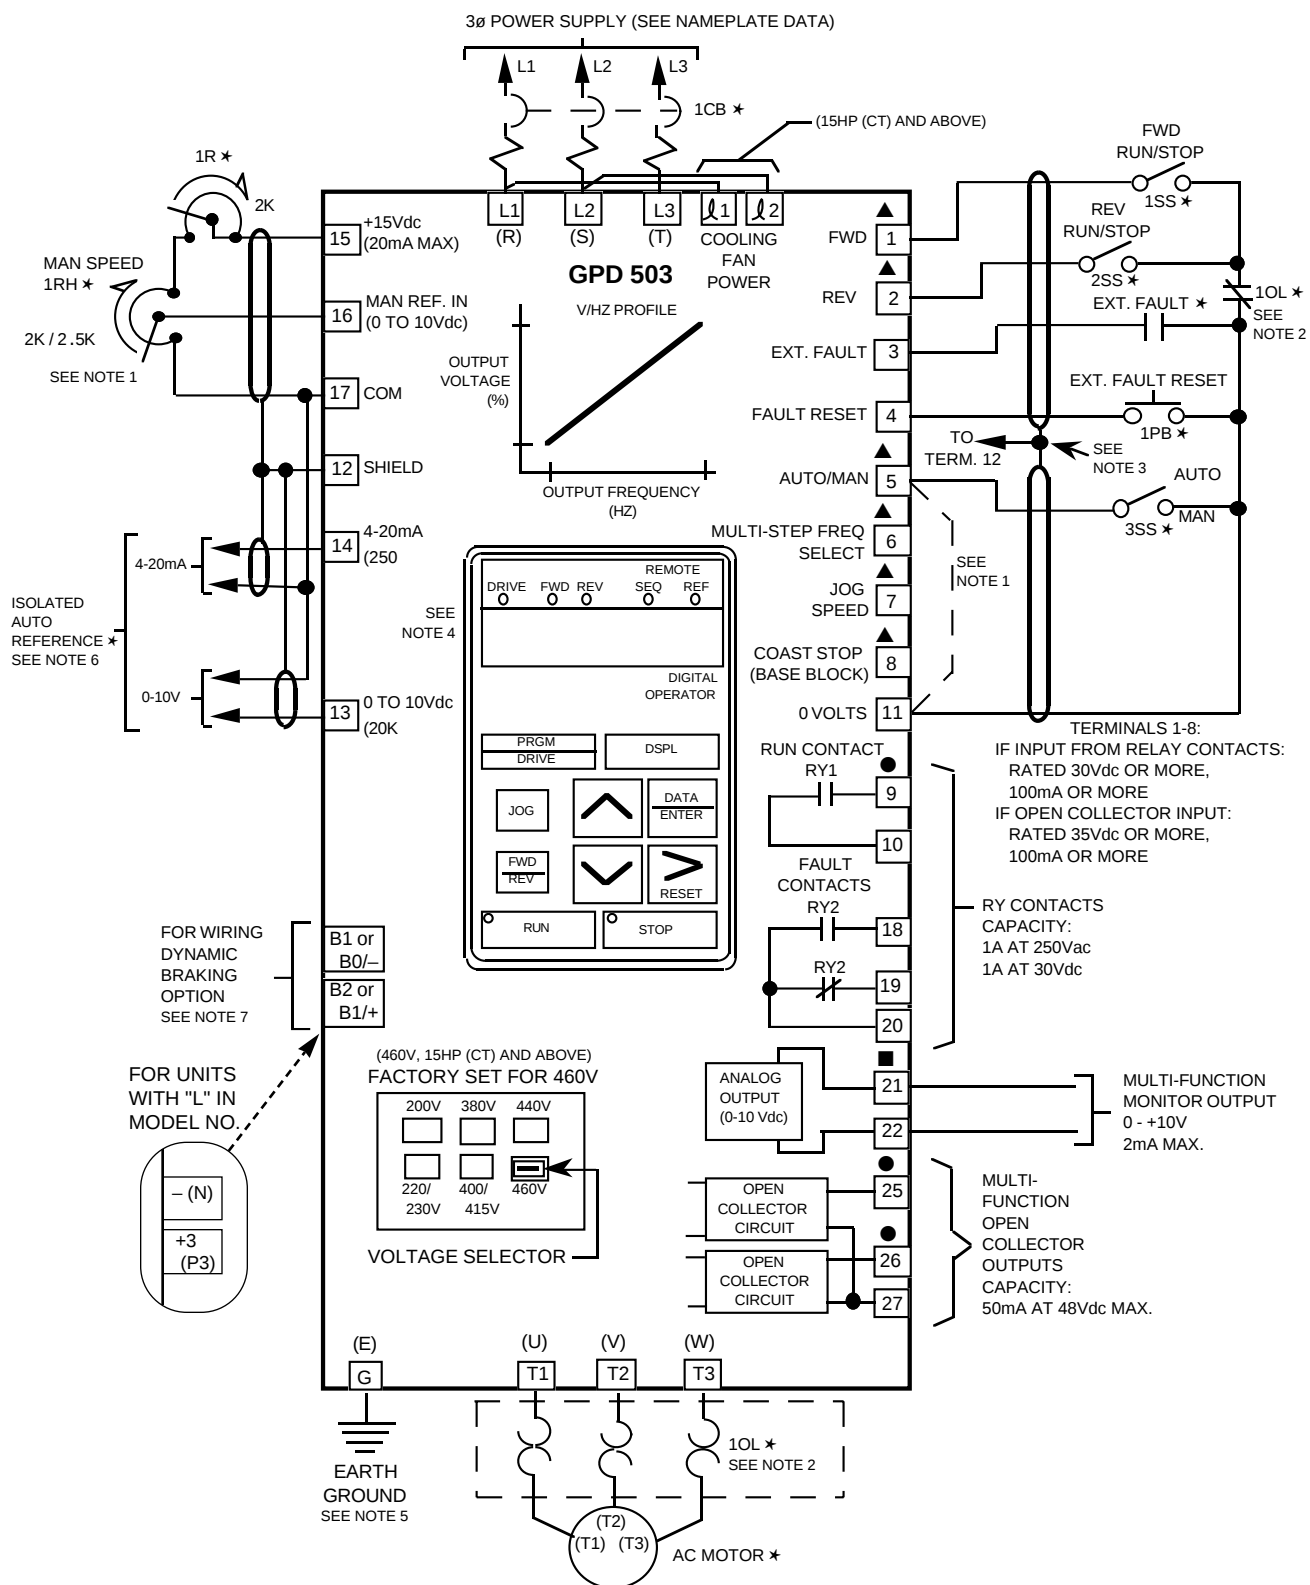

Figure 1-3. 230V or 460V Interconnections - 2-Wire Control
- Interconnections for external two-wire control in combination with the Digital Operator are shown in Figure 1-3 (for 230V or 460V rated drives) and Figure 1-5 (for 575V rated drives).
NOTES FOR FIGURE 1-3